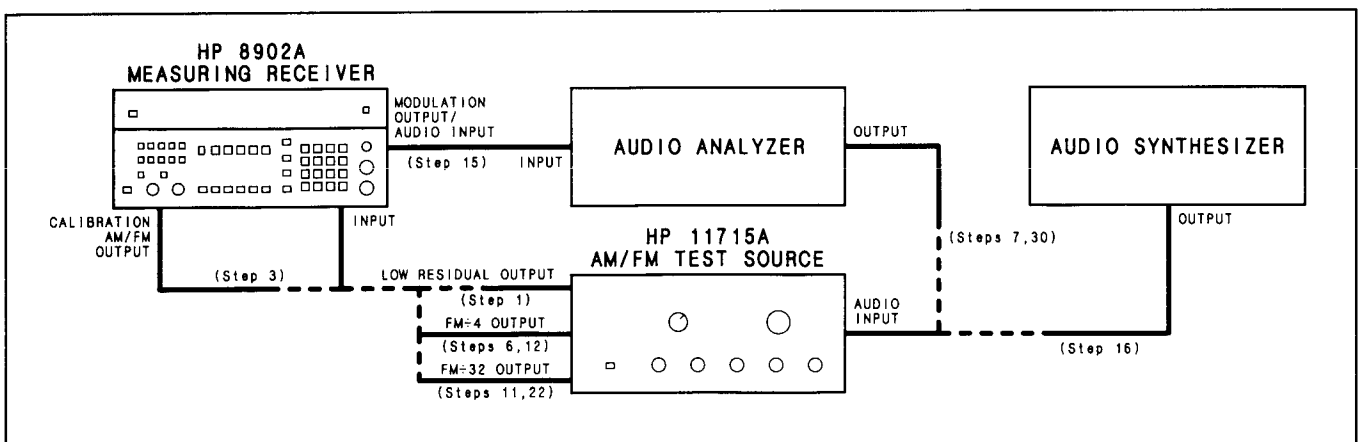

Figure 4–2. FM Performance Test Setup
16. Set the audio synthesizer to 10 kHz at +5 dBm. Connect its output to the audio input of the AM/FM test source. (See Figure 4–2.) Fine adjust the level for a Measuring Receiver display of 100 kHz times the calibration factor of step 5. (For example, if the calibration factor of step 5 is 100.4%, set the level for a display of 100.4 kHz.)
22. Connect the FM÷32 output of the AM/FM test source to the Measuring Receiver’s INPUT. (See Figure 4–2.)